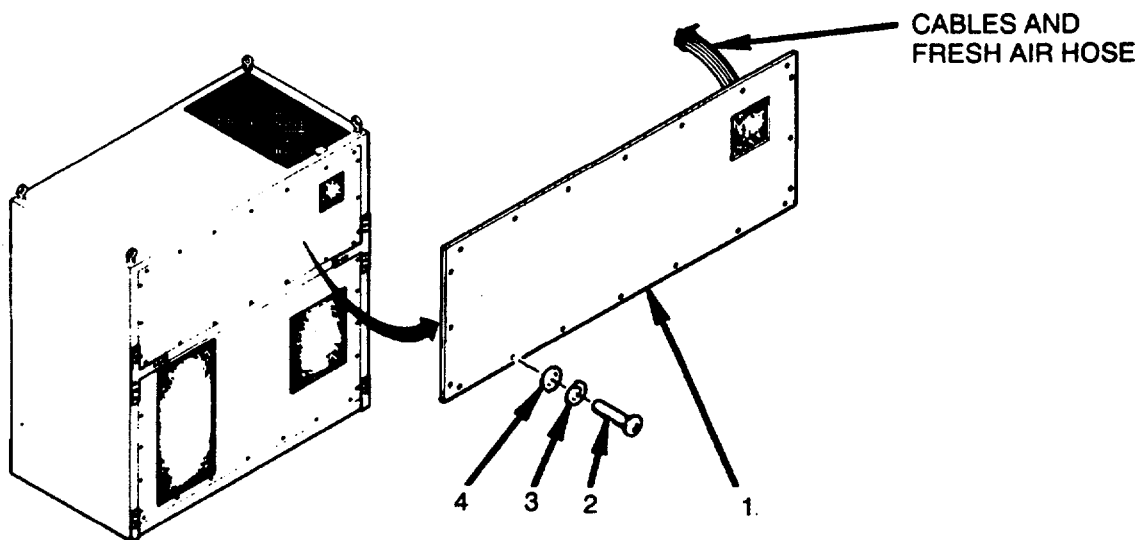

Figure 4-14. Rear Evaporator Panel Installation
- b. Install Rear Evaporator Panel. Rotate and position panel (1) and install 14 screws (2), lockwashers (3), flat washers (4) (see Figure 4-14).